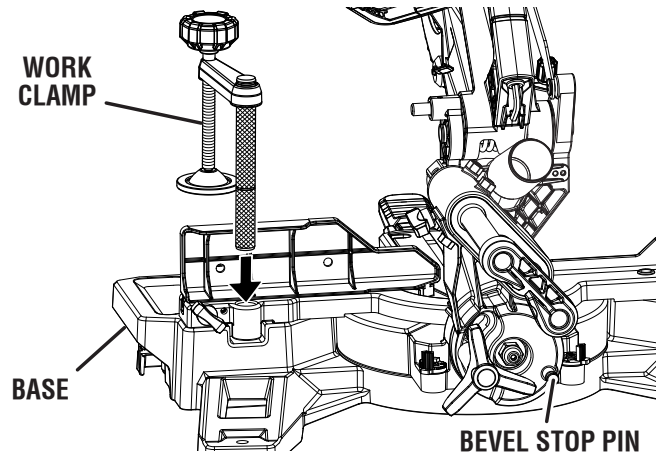

Fig. 12
See Figure 12.
- Push the bevel stop pin inward. *See figure 12.*